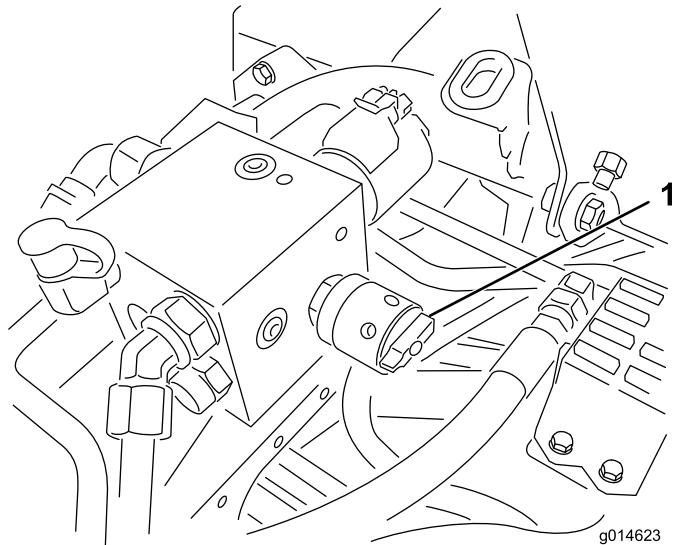

Figure 53
6. Rotate the reel speed control to setting 1 (Figure 53).